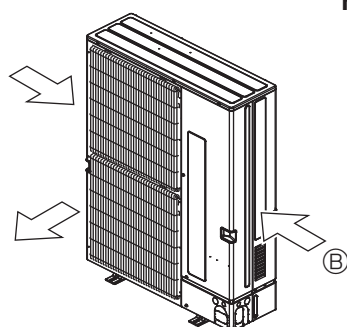

Fig. 2-4
- ③ Position the unit so that the air outlet blows perpendicularly to the seasonal wind direction, if possible. (Fig. 2-4)